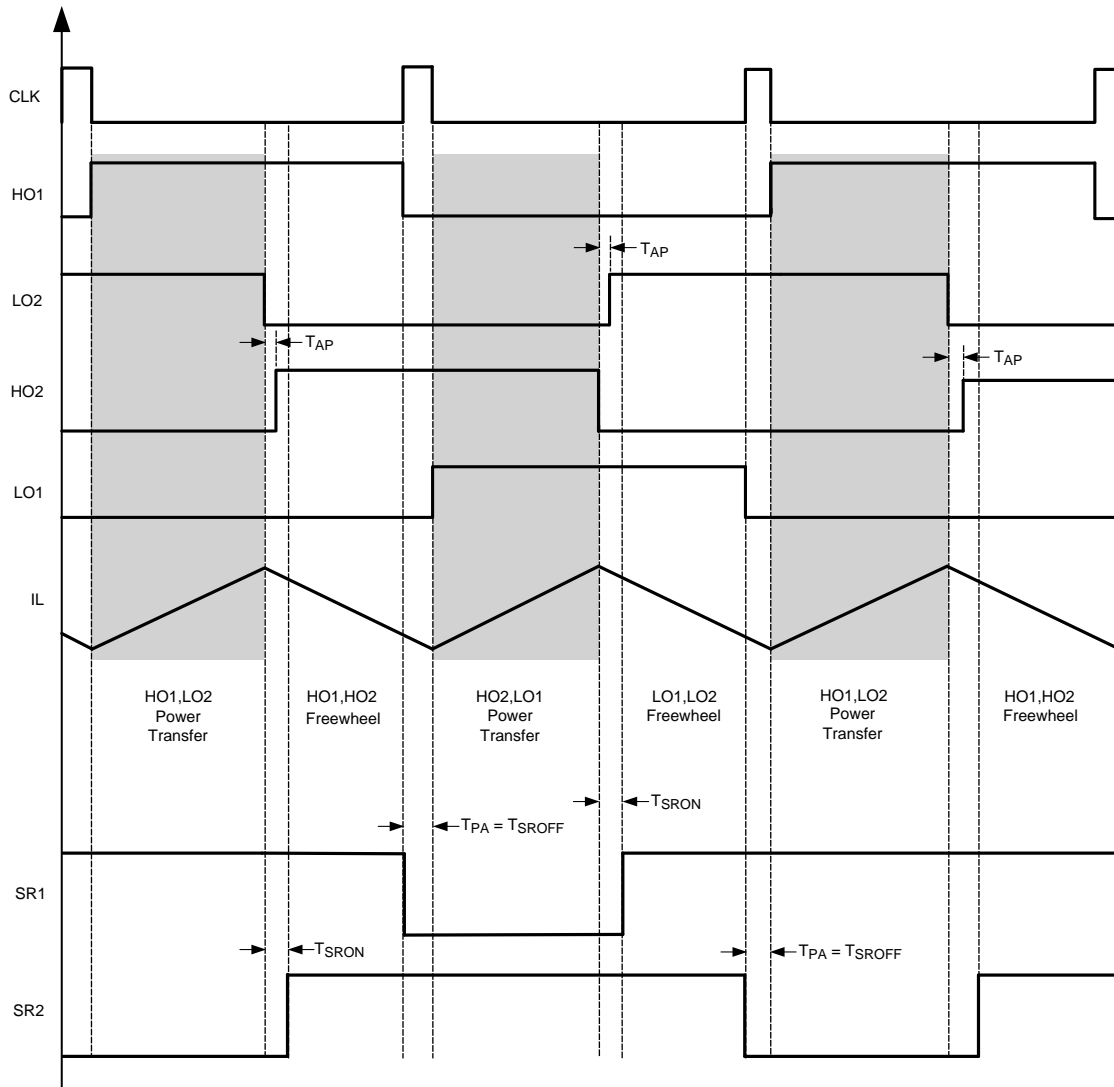

Figure 13. Synchronous Rectifier Timing Diagram
Synchronous rectification (SR) of the transformer secondary provides higher efficiency, especially for low output voltage converters, compared to the diode rectification. The reduction of rectifier forward voltage drop (0.5 V – 1.5 V) to 10 mV – 200 mV VDS voltage for a MOSFET significantly reduces rectification losses. In a typical application, the transformer secondary winding is center tapped, with the output power inductor in series with the center tap. The SR MOSFETs provide the ground path for the energized secondary winding and the inductor current. From Figure 13 it can be seen that when the HO1/LO2 diagonal is turned ON, power transfer is enabled from the primary. During this period, the SR1 MOSFET is enabled and the SR2 MOSFET is turned-off. The secondary winding connected to the SR2 MOSFET drain is twice the voltage of the center tap at this time. At the conclusion of the HO1/LO2 pulse, the inductor current continues to flow through the SR2 MOSFET body diode. Since the body diode causes more loss than the SR MOSFET, efficiency can be improved by minimizing the T_{SRON} period. In the LM5046, the time T_{SRON} is internally fixed to be 30ns. The 30ns internally fixed dead-time, along with inherent system delays due to galvanic isolation, plus the gate drive ICs, will provide sufficient margin to prevent the shoot-through current.
During the freewheeling period, the inductor current flows in both the SR1 and SR2 MOSFETs, which effectively shorts the transformer secondary. The SR MOSFETs are disabled at the rising edge of the CLK, which also disables HO1 or LO1. As shown in Figure 13, SR1 is disabled at the same instant as HO1 is disabled, and SR2 is disabled at the same instant as LO1 is disabled. The dead-times, T_{SROFF} and T_{PA} achieve two different things but are set by single resistor, RD1. Therefore, RD1 value should be selected such that the SR1/SR2 turns-off before the next power transfer cycle is initiated by T_{PA} .